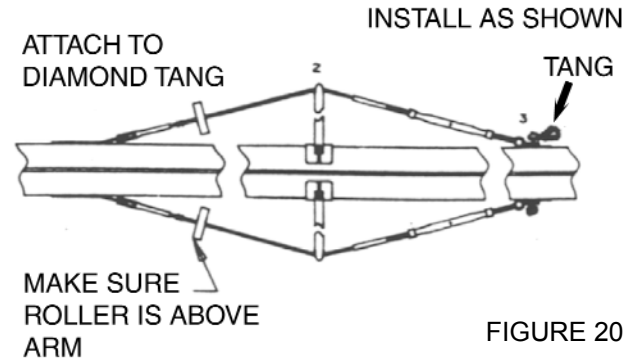

FIGURE 20
13.2 Attach the jaw end of the diamond wire to the diamond wire tang located below the mast tang. Use a clevis pin and a cotter pin to secure the wire. (FIGURE 20)
13.3 Secure the diamond wire in the spreader arm slot with large cotter pins. (FIGURE 20)
13.6 Secure the bottoms of the turnbuckles to the mast, **ADD TANG TO STARBOARD SIDE.** (FIGURE 20)